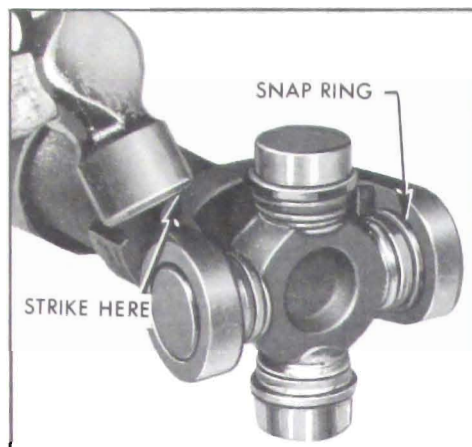

Figure 6-51—Seating U-Joint Snap Rings
Tight universal joints	Impact yokes with hammer to free up. Replace joint if unable to free up or if joint feels rough when rotated by hand. See Figure 6-51.
4. Strike the yoke with a hammer to fully seat the snap rings against the yoke. Turn the spider to make certain that it is free. See Figure 6-51.